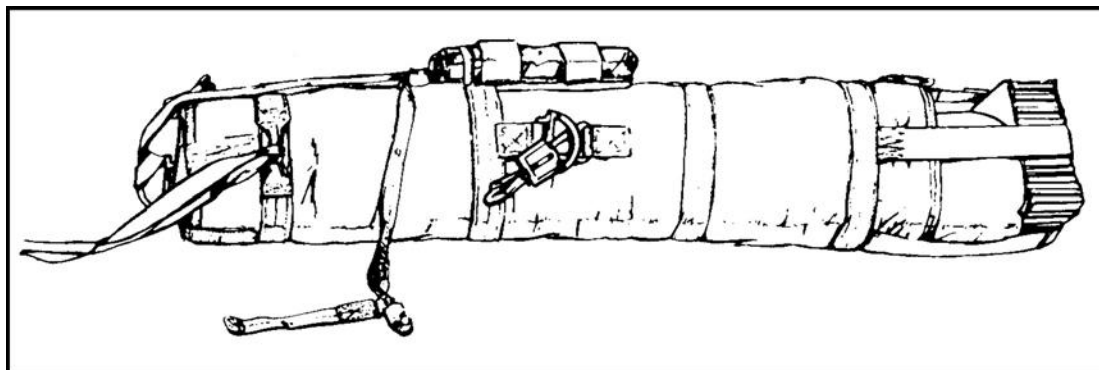

Figure 12-54. Standard lowering line stowed.
(1) Insert the lowering line assembly in the lowering line stow pocket with the attaching strap positioned against the pack body and ejector snap away from the jump pack.
(2) Fasten the hook-pile tabs firmly together around the lowering line stow pocket (Figure 12-54). The AT4JP is now ready for attachment to the parachutist.